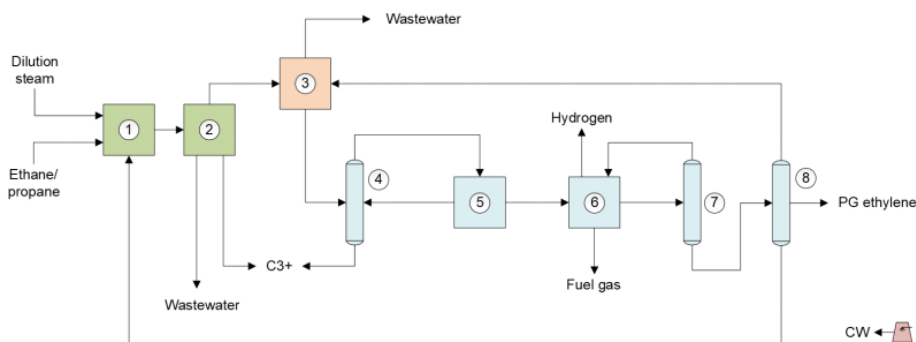

FIGURE 2. The diagram shows the process for producing ethylene by cracking ethane
Production of polymer-grade (PG) ethylene from ethane feedstock can be divided in three main parts: cracking and quenching; compression and drying; and separation (Figure 2).